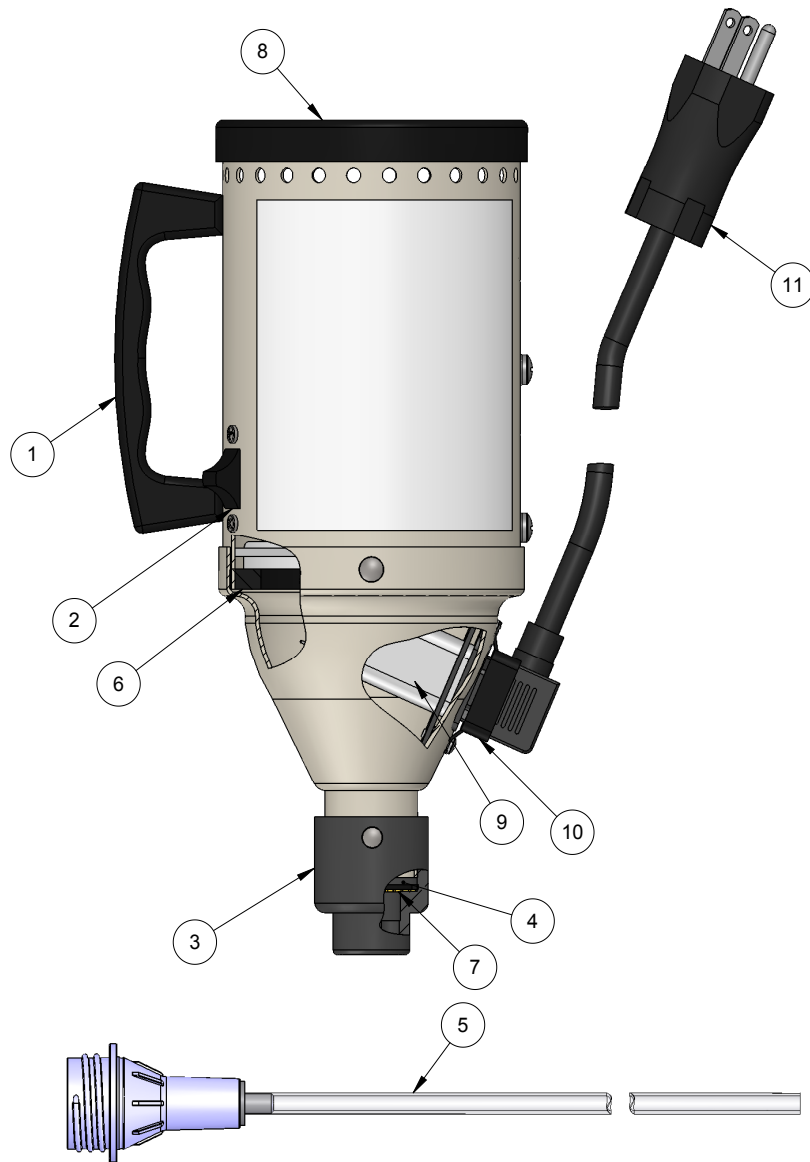

Figure 2 - Parts Drawing
7.4 Pressure Check [refer to figure 2]
Gaymar Test Tool P/N 77553-000 adapts the SC505 inflator to tubing (3/16" ID) for connection to a manometer. See figure 2, item 5. Attach the tubing end to a standard manometer. Hold the inflator and test tool together firmly. Turn the inflator on. Verify that the output pressure is at least 30 mm Hg, but not more than 37 mm Hg. If the unit fails pressure check, refer to Section 8.0 paragraph 5.